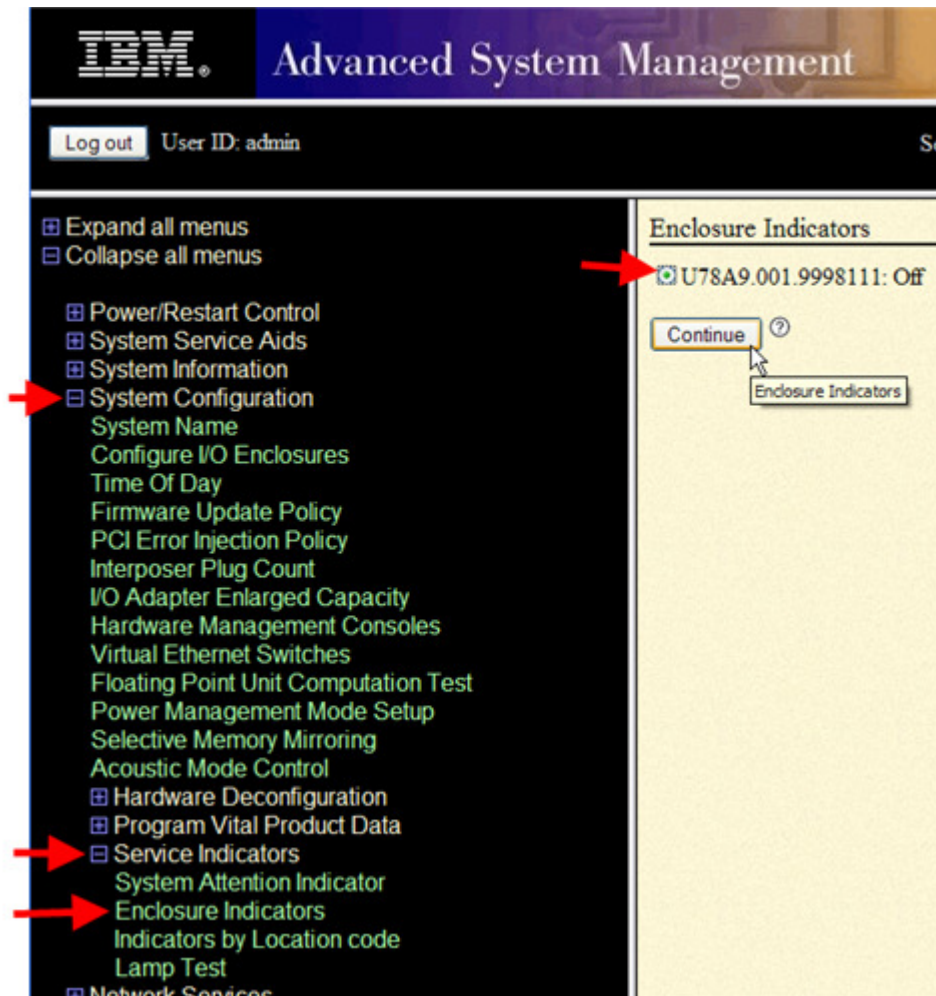

Figure 34 Enclosure Indicator
STEP 47 Display the Service Indicators User Interface. See Figure 34.